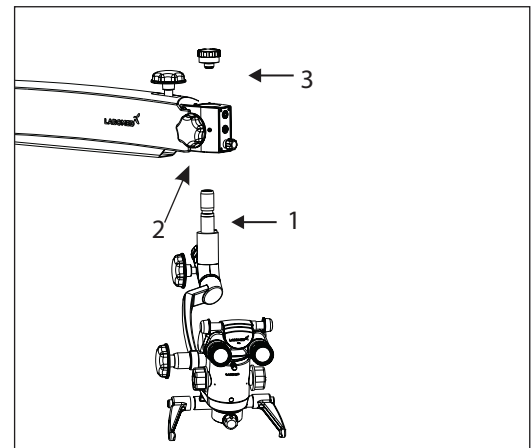

Fig. 5
8.4 Retrieve the carrier assembly from the packing and follow as below refer Fig. 5.
- Install the coupling to the suspension arm by sliding the guiding shaft (1) to the suspension arm.
- Lock the inclined coupling with the threaded plug (3).